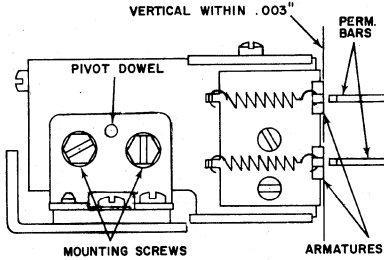

Figure 6
3. Loosen the two hex head screws on each side of each magnet yoke and pivot the yokes around the studs so that all armatures have the same clearance (within .003") to the permutation bar projections vertically (Figure 6). The variation should be measured between the top and bottom armature in each case. Tighten the hex head screws.